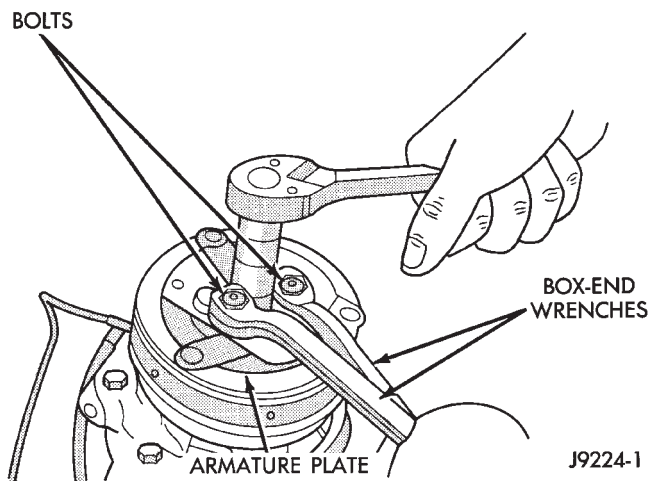

Fig. 21 Compressor Shaft Nut Removal/Installation
- (1) Remove the compressor from the mount.
- (2) Install two (6 mm) bolts into the threaded holes in the armature plate. Hold bolts with two wrenches to prevent shaft from turning (Fig. 21). Remove compressor shaft nut.